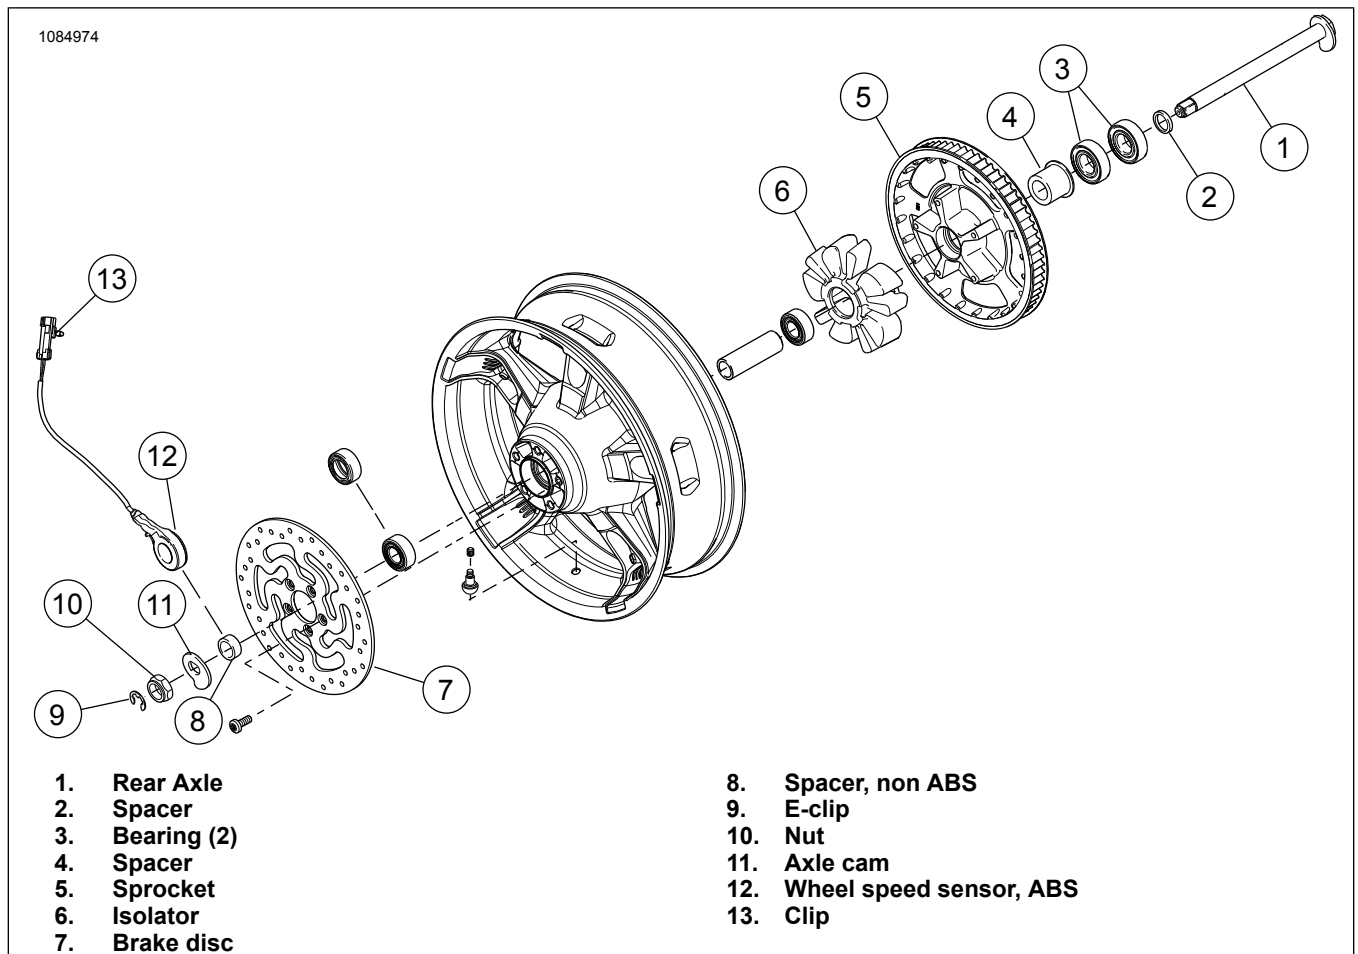

Figure 5. Rear Wheel Parts for Reuse
3. See Figure 5. Remove and disassemble existing rear wheel assembly. See service manual.